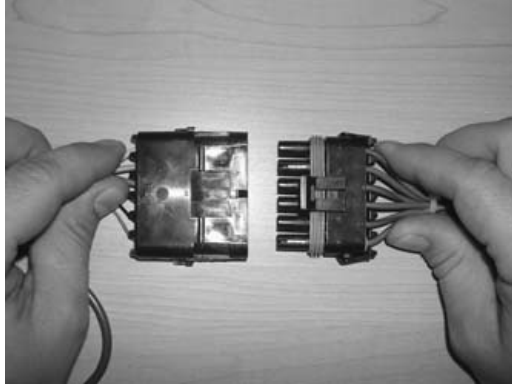

FIGURE 2-11: CONNECTING SENSOR CABLE TERMINALS
- f. Refer to **Figure 2-11**. Insert 14 AWG (1.5 mm²) wires into connector and connect to sensor cable.